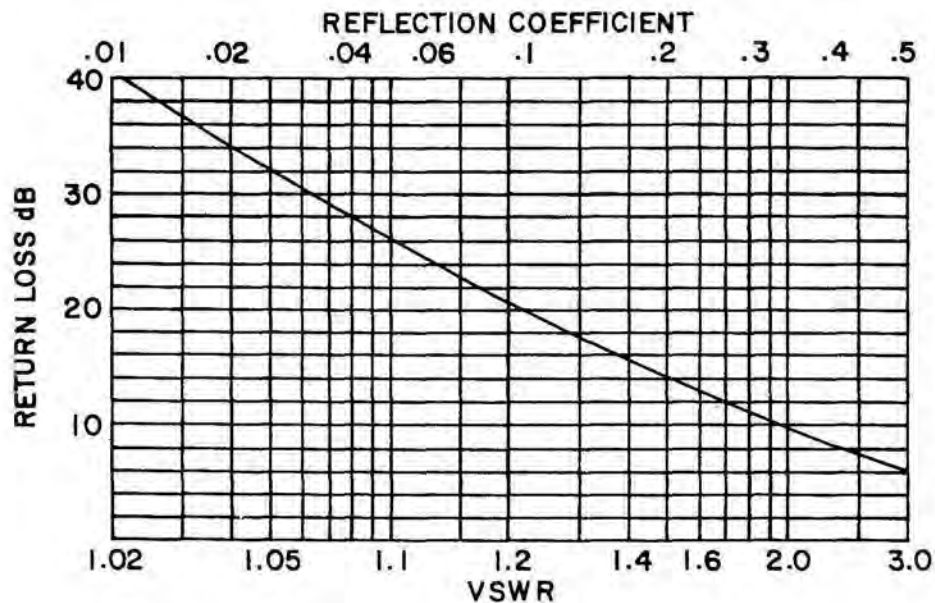

Figure 7-15 VSWR Determination for Power Termination Assembly
21. Determine VSWR from graph in Figure 7-15. Verify VSWR is ± 1.3 .